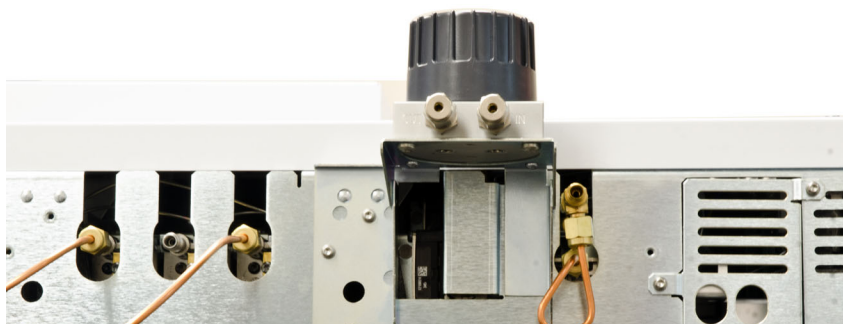

Figure 14. Bracket connecting unit installed on the bracket top for ALS and general configurations
- If you have an ALS installed with your system, install the bracket connecting unit to the top of the bracket (**Figure 14**).